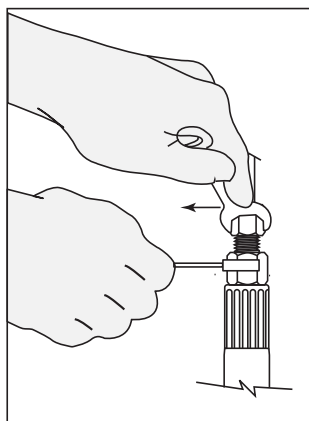
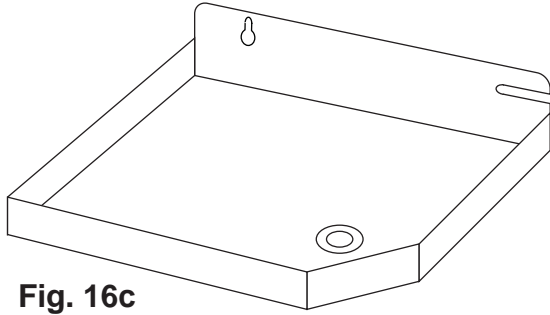

Fig. 16b
Fig. 16c
16.2 At the other end of the water hammer absorber, connect the water supply tube, using the same type of fitting used on the water supply valve. Tighten the compression nut, without stripping, with two wrenches, one to hold the water hammer end, and one to turn the compression nut. Please see Fig. 16b.
16.2 Take the 5/16 dia. plastic tube and push one end on the connector located at the bottom of the overflow pan. Please see Fig. 16b and Fig. 16c.